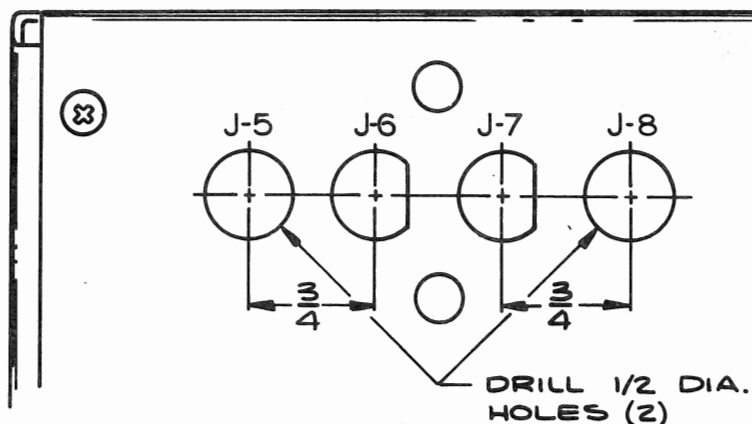

Fig. 6
- ( ) 2. Drill two 1/2 in. holes in the rear plate, on each side of the two existing "D" holes, as shown in Fig. 6.